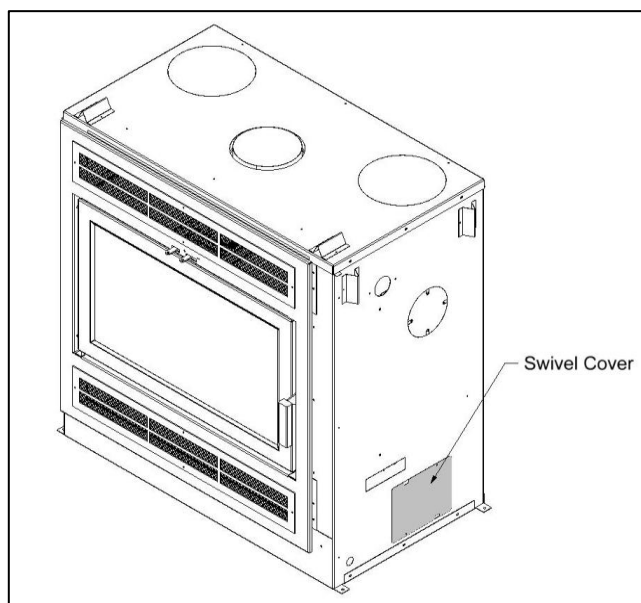

Figure 3-9: Intake Swivel Cover Closed
6. Secure the Intake Swivel Covers on the bottom sides of the unit to the closed position (Figure 3-9).